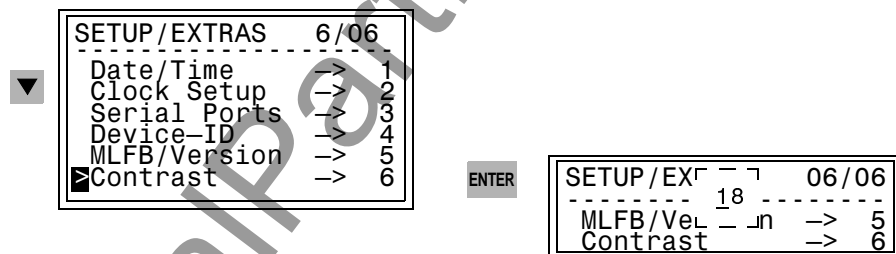

Figure 3-3 Operating sub-menu for adjusting the display contrast
- Using the **▼** key, select the menu item **Setup/Extras** and switch to the selection **SETUP/EXTRAS** using the **►** key. See Figure 3-3.